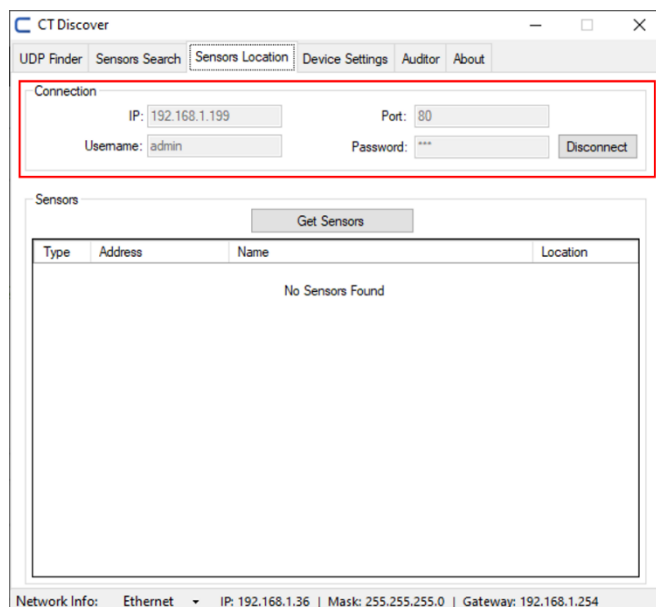

Figure 26 – Connection data - Connected
2. Insert the Nidus connection data if nidus is not connected (Figure 26).